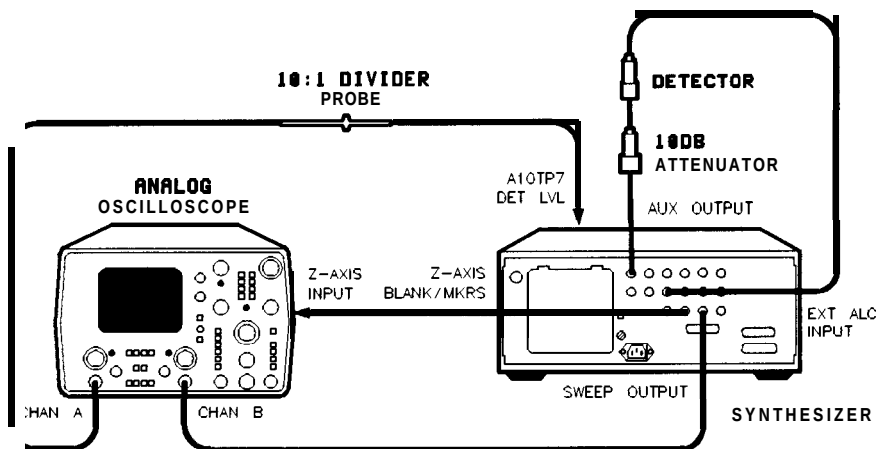

Figure 3-14. HP 836518 Amplifier/Multiplier Adjustments Setup
1. Connect the equipment as shown in Figure 3-14 using an analog oscilloscope with A versus B sweep capability. Power on all the instruments and let them warm up for at least one hour.